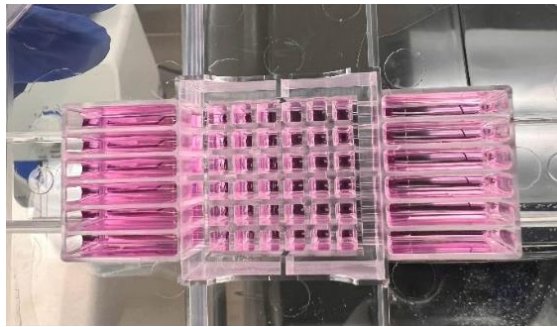

Figure 3. Uniform level of the cell growth medium in the 36PerfusionPlate.
- Take the perfusion plate out of the incubator and check the level of the cell growth medium in upper and lower reservoirs as well as perfusion wells (**Fig. 3**).